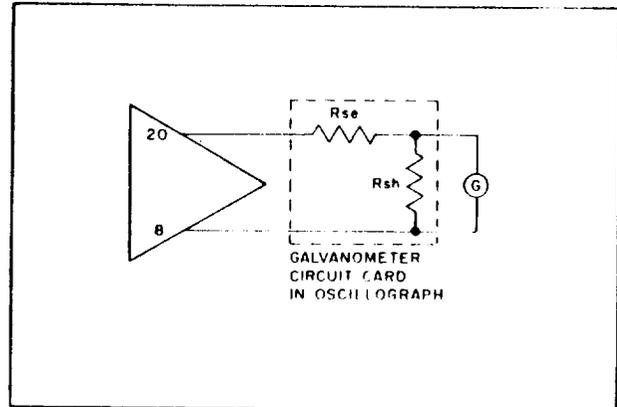

Figure 2-6. Galvanometer Connection
- A. ELECTROMAGNETICALLY DAMPED GALVANOMETERS. Each Honeywell M-Series electromagnetically damped galvanometer must be matched to its critical damping resistance R_D to obtain the best compromise between overshoot and frequency response. Proper damping reduces overshoot to a minimum while providing the best flat frequency response. Matching the Accudata 104 output to these galvanometers requires the addition of a series and shunt resistor between the output and galvanometer as shown in Figure 2-6.